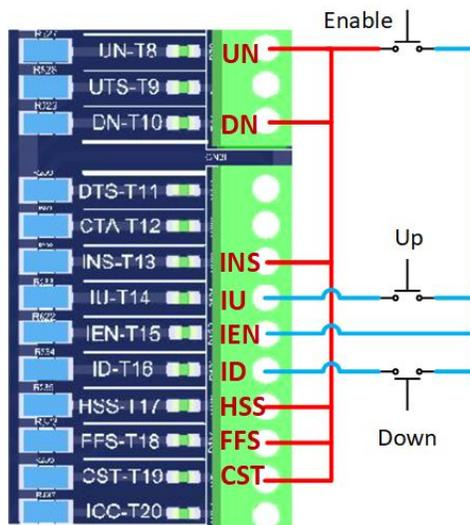

Figure 3-1: GALX-1102AN Main I/O Board With Run Bug. See Figure 3-4 For Run Bug Stop Switch
- 5) Add temporary connections on the GALX-1102 Main I/O Board and Expansion I/O boards as shown in Figures 3-1, 3-2, 3-3, and 3-4.